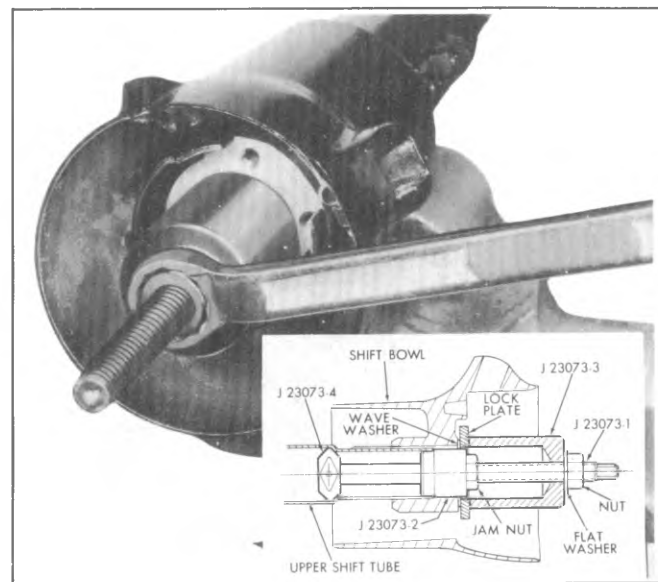

Fig. 3B-83--Installing Shift Tube
12. Assemble the bearing housing over the steering shaft and engage the rack over the end of the actuator rod (fig. 3B-82).